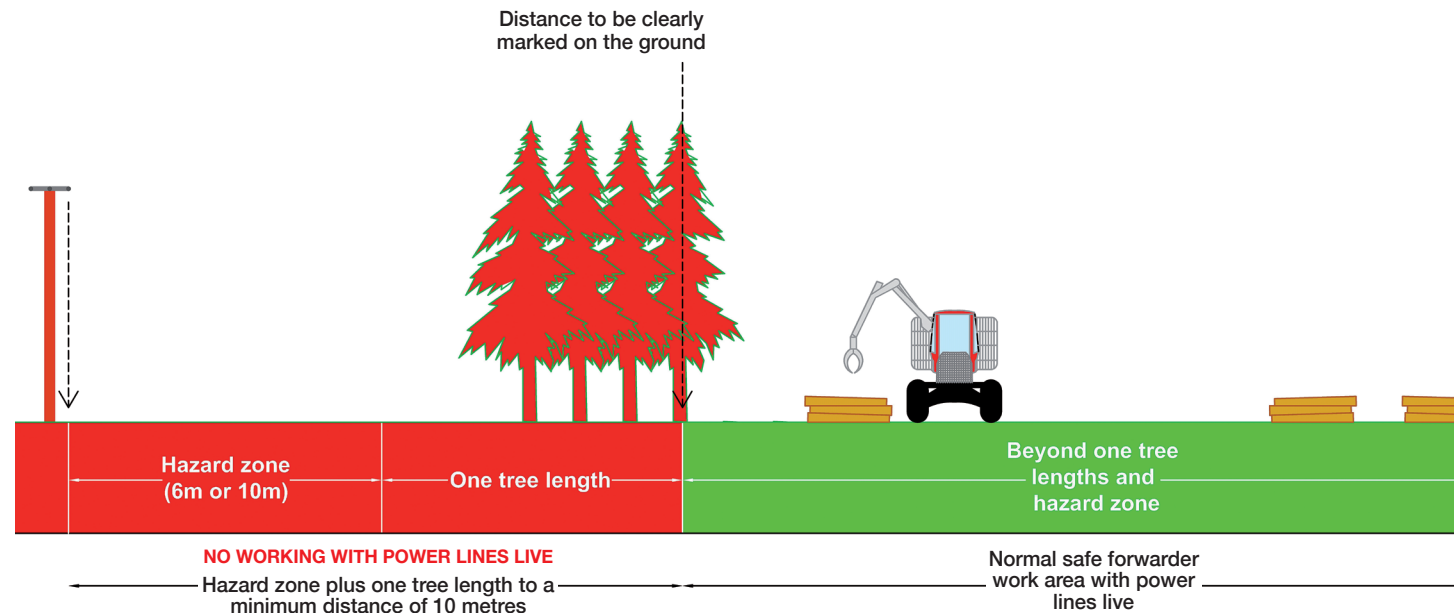

Figure 1:
- 15 Do not operate the forwarder if any part of the machine or its load can come within the hazard zone of energised OELs (see Figure 1). The hazard zone will vary between 6m and 10m depending on line voltages (see Leaflet IFSG 804 (IRL) *Electricity at Work: Forestry*).